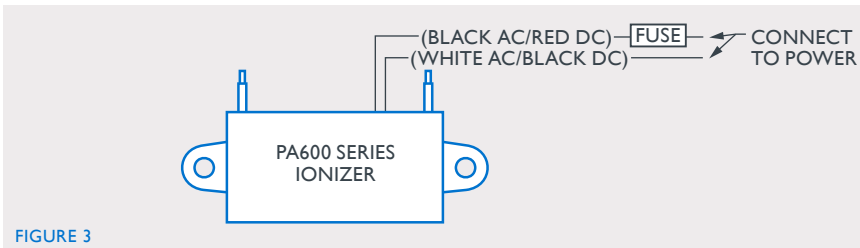

FIGURE 3
5. Connect power to the ionizer using appropriate voltage per the following: 601 (12V DC) 602 (24V AC / 24V DC) 603 (120V AC) 604 (208-240V AC) See figure 3.